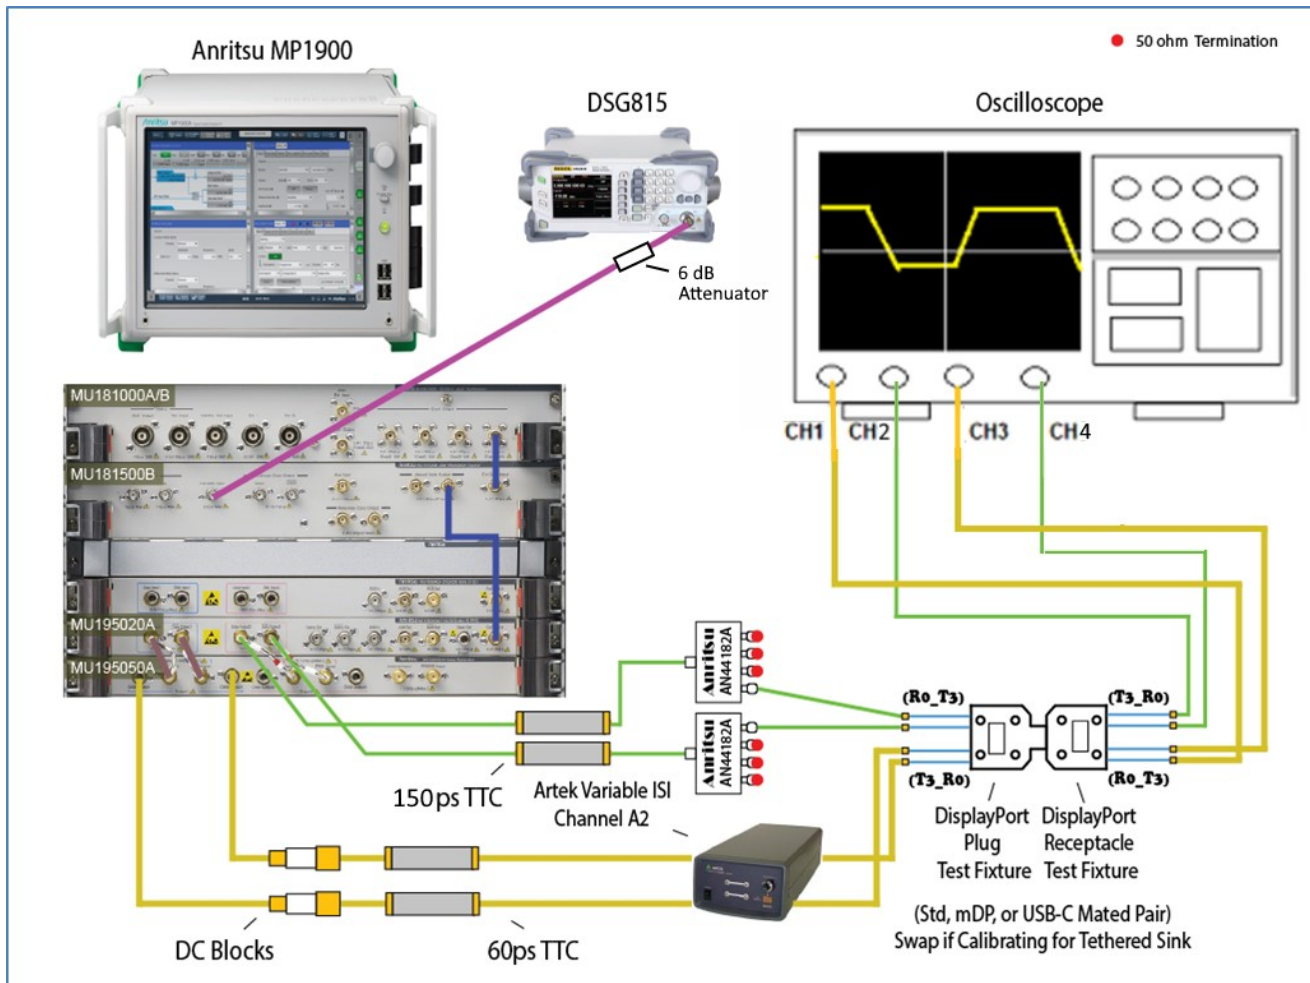

FIGURE 42. HBR3 CONCEPTUAL SETUP FOR TP3 CALIBRATION
Figure 42 shows the conceptual calibration setup at TP3. This setup uses the Artek CLE1000-A2 as the variable ISI source and the MP1900A BERT as the crosstalk source.
- Connect the crosstalk source (Channel 2) to the fixture and Scope as shown in Figure 42.